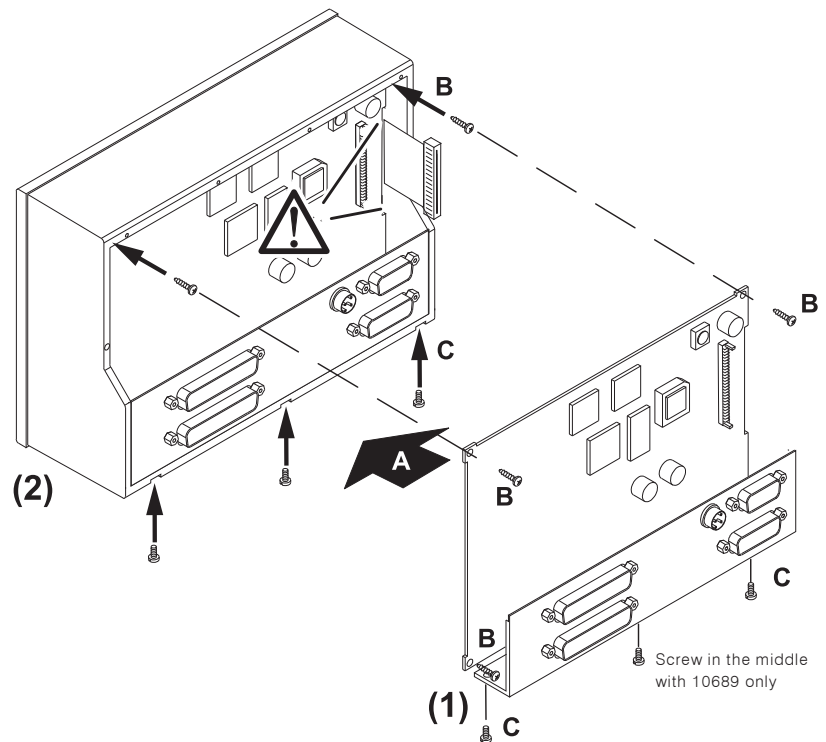

Fig. E 7-10: Remounting the main pcb and the connector panel
10. Place the main pcb with the attached connector panel back to its holder bases (A). Take care about the wiring of the connecting flat cable. It has to be directed through the right sided gap of the pcb without clamping and may only stick out for about 1 - 2 cm maximum. Avoid damage because of canting. Now first fasten the main pcb with its three screws (B), then fasten the connector panel with its two (10689-PLUS, spare out the middle hole) resp. three (10689) screws from the bottom side (C). (Fig. E 7-10)